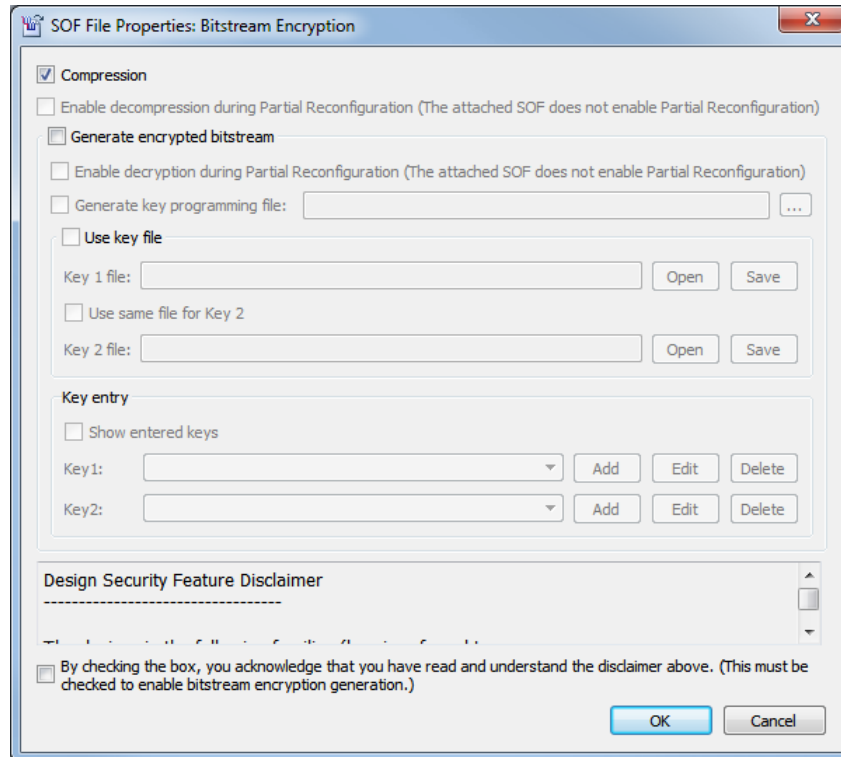

Figure 38. Enabling file compression.
6. Click and highlight the newly added .sof file in the list, then select `Properties`. You should see the window shown in Figure 38. Enable file compression by ticking the checkbox as shown, then press OK.